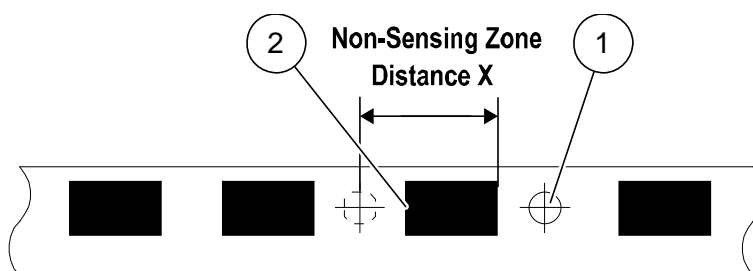

Figure 7-79 Non-Sensing Zone
Step 5: Set "Non-Sensing Zone" to the value of X shown in Figure 7-79; (Step e in Figure 7-78)
For example, if material belt stays at the position shown in Figure 7-79 and the "Non-Sensing Zone" is set to X, then the border detected within the separation distance X is invalid after the right border of the rectangle is detected.